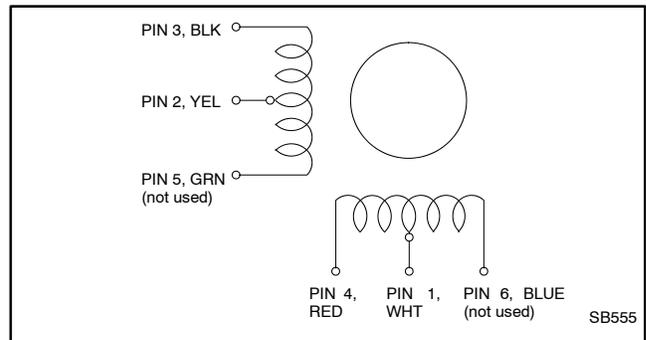

Figure 5-27 Actuator Coil Group
12. Check the stepper motor coil resistance across pins 2 and 3 and across pins 1 and 4. Only two stepper motor leads of each coil group are used (BLK-YEL and RED-WHT). See Figure 5-27. The resistance per half coil is 38.5 ohms. If one of the coils has a significantly higher resistance or is shorted, replace the stepper motor.